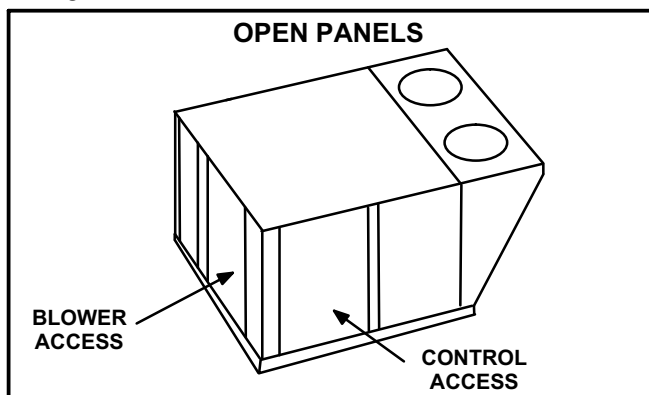

FIGURE 1
- 2- Open access panels as shown in figure 1.